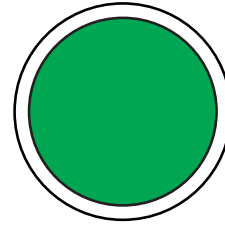

Figure 9. Circuit Breaker ON Button (ON/GREEN)
- Press the **Circuit Breaker ON button** (Figure 9). The button LED will turn **ON (green)** and power will be supplied to the output terminals and receptacles.
3. The main circuit breaker will automatically turn **ON** after the engine starts. Observe that the LED on the **Circuit Breaker ON button** has turned **ON (green)**. See Figure 9.